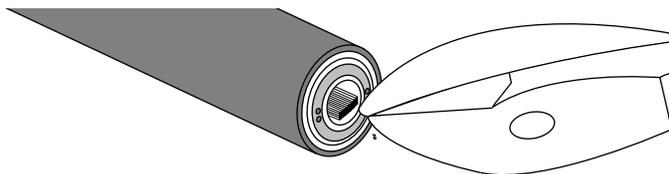

Figure 3
**4.4** Trim the end of the cable with side cutters (Figure 3) to remove any protruding tube, strength member, or armor.